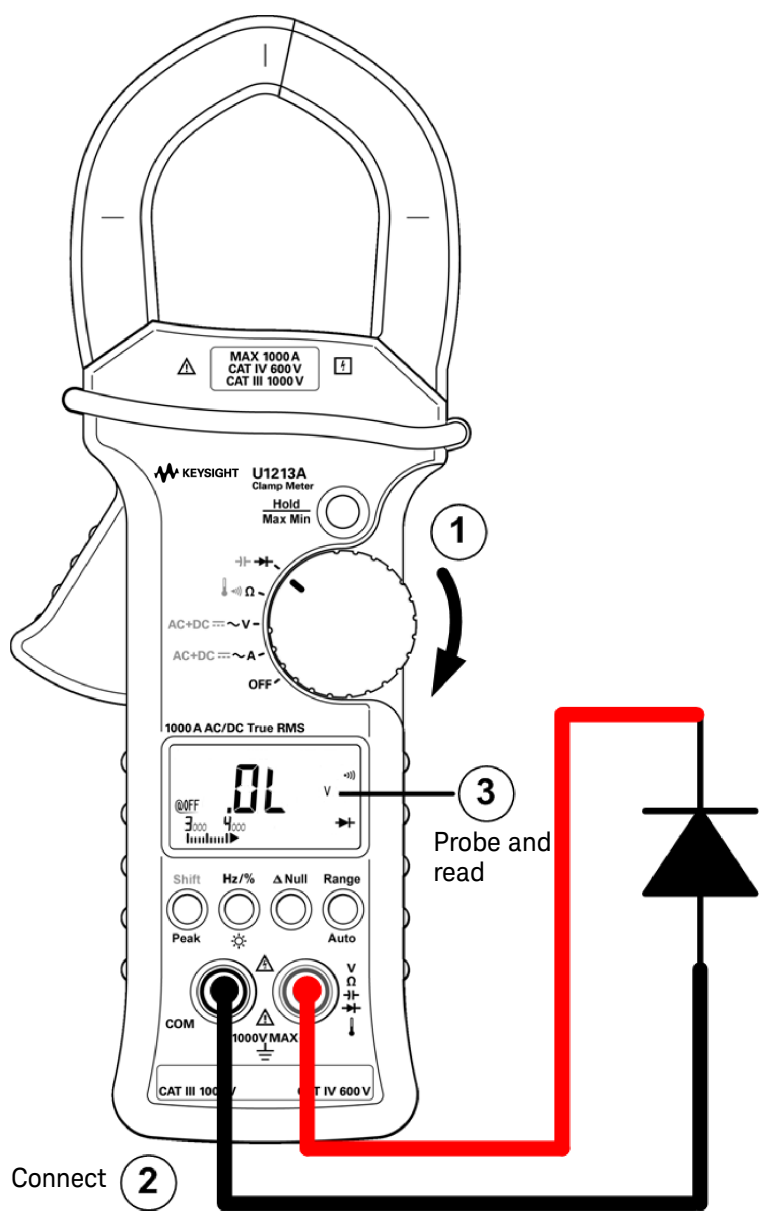

Figure 2-6 Measuring diode (reverse bias)
- 4 Reverse the probes and measure the voltage across the diode again (see Figure 2-6 on page 45). Assess the diode according to the following guidelines: